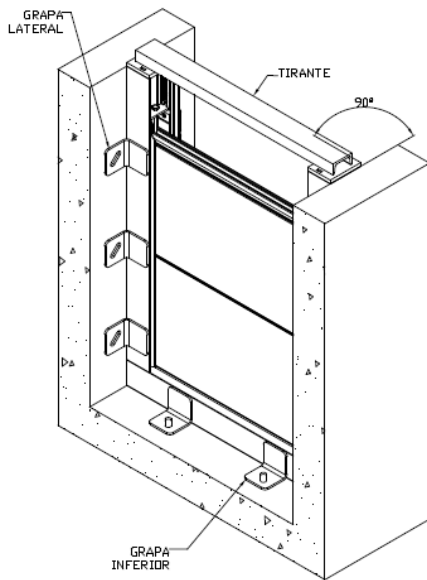

Figure 6
- Position the unit in the existing channel. Make sure that the gate is perfectly aligned and centered in the channel (see Figure 6).